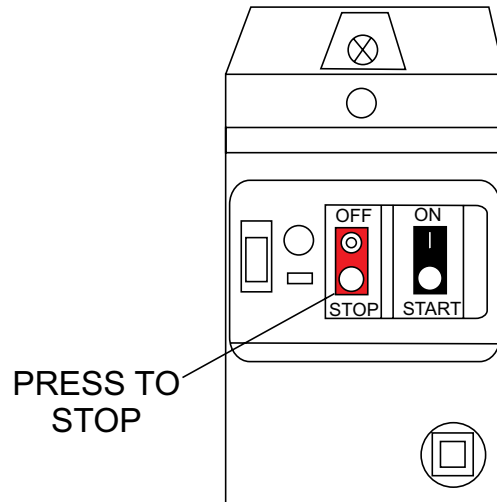

Figure 32. Electric Motor ON/OFF Switch (Stop)
1. To stop the electric motor, press the red OFF/STOP switch (Figure 32).